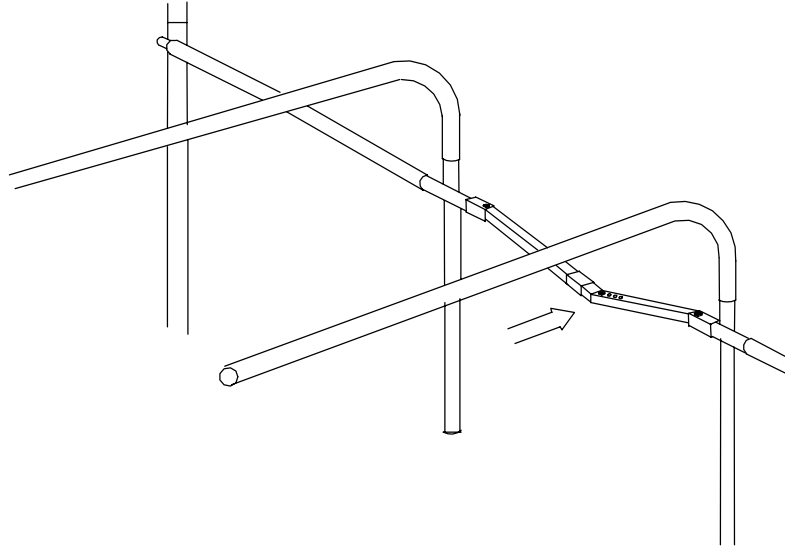

Figure 10. Adjustable Spacer.
12. Install the adjustable spacer, as shown in Figure 10, in the remaining location. Slide the adjustable spacer between the stubs of the verticals. To obtain the correct tension, adjust the length by moving the bolt to the desired location. Orient the spacer so that it will tighten by pushing outward. Two personnel may be needed to straighten the spacer.
**CONTAINERIZED KITCHEN (CK)